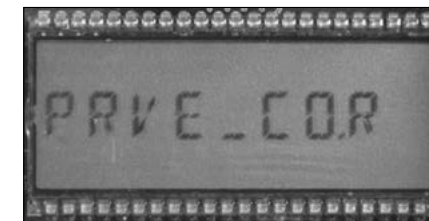

Figure 14.8 - LCD screen displays PRVE_CO.R
- C. Hold the magnet for about five seconds on the word **"swipe"** (next to the LCD screen display) until the display changes to **PRVE_CO.R** (Figure 14.8).